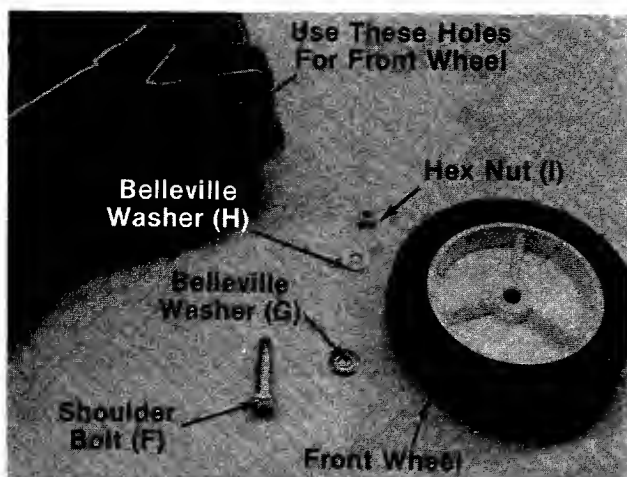

FIGURE 9.
14. **Units without height adjustment brackets**—If the wheels on your mower are not already assembled, proceed as follows. The front wheels must be assembled in one of the three holes nearest the front of the deck. See figure 9. The rear wheels must be assembled in one of the three holes nearest the rear of the deck. The three holes provide three cutting heights for your mower. Use the same hole location for all four wheels when assembling. If wheels are to be assembled in the lowest cutting position (highest hole in the deck), refer to the note below.
- ← To assemble the wheels (see figure 9):
- Place shoulder bolt (F) through wheel.
- Place one belleville washer 7/8" O.D. (G) on shoulder bolt, with the cupped side of washer toward the deck (away from wheel).
- Secure wheel to deck with one belleville washer 1-1/8" O.D. (H) on the inside of the deck (cupped side against the deck) and hex nut (I).